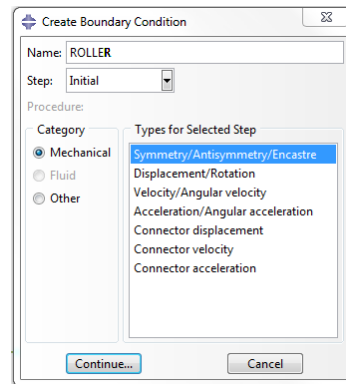

**Figure 25.** Edit Boundary Condition Dialog Box (FIXED)
- The **Edit Boundary Condition dialog** box will immediately appear. Click **ENCASTRE** ( $U1=U2=U3=UR1=UR2=UR3=0$ ). The Edit Boundary Condition dialog box should look identical to that in Figure 25.